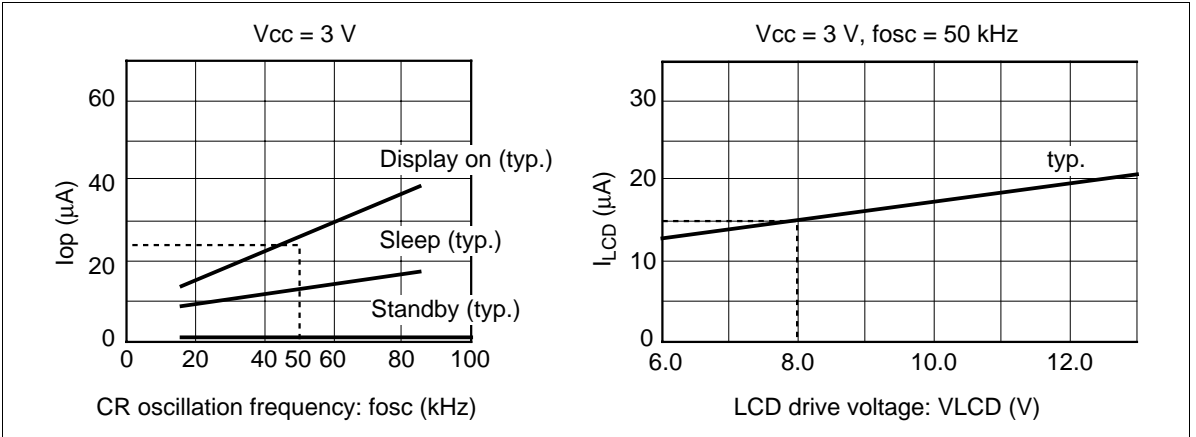

Figure 61 Relationship between the Operation Frequency and Current Consumption
11. The following shows the relationship between the operation frequency (f_{osc}) and current consumption (I_{cc}) (figure 61).